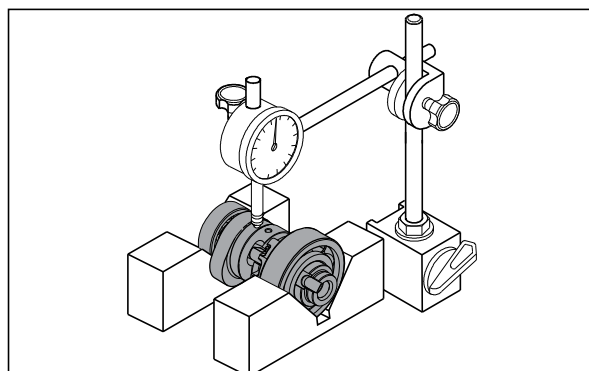

Fig. 3.67
- Measure the runout of the camshaft with a dial gauge. Replace the camshaft with a new one if the runout exceeds the service limit. (Fig. 3.67)